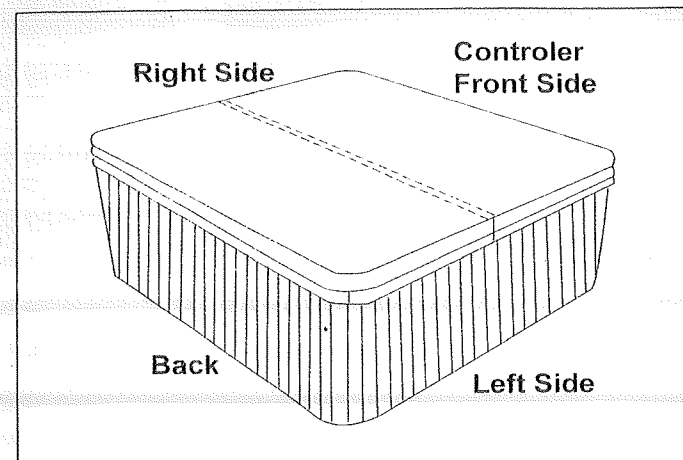

Figure 1
1. Position the spa cover (in closed position) on the spa, making sure that all four corners are properly positioned and square on the spa. See Figure 1.